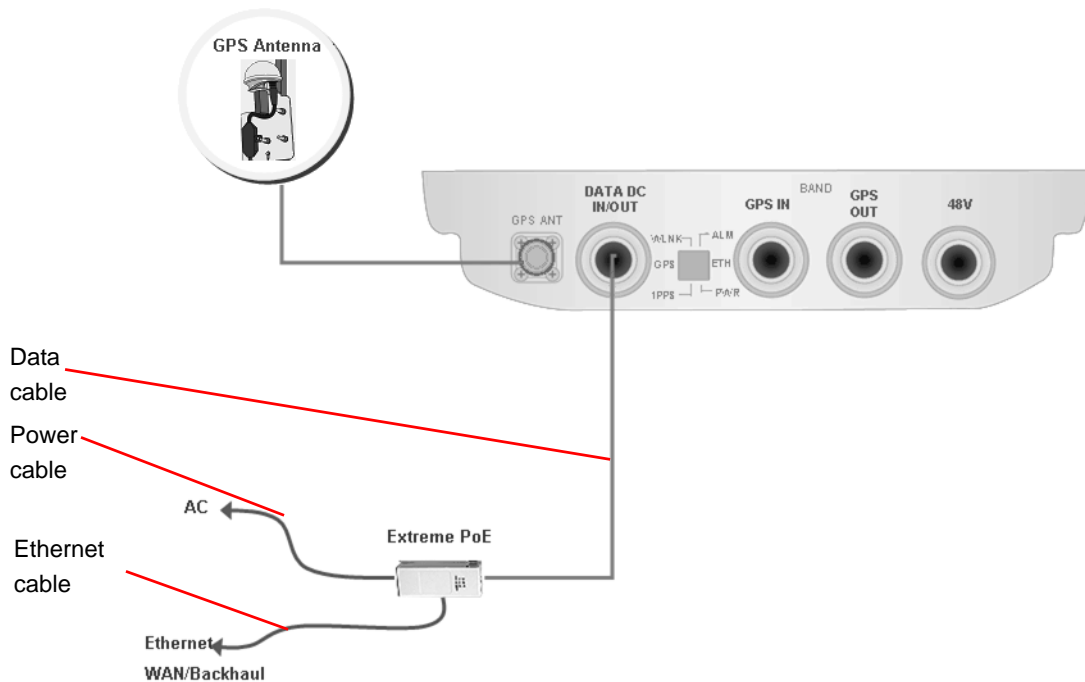

Figure 2-22: Connecting Data Cable When Using PoE (for 5 GHz Units Only)
- » If you are using PoE (for 5 GHz units only) - to the PoE AC/DC power supply RJ-45 connector (labeled as Radio). Connect the Ethernet port of the PoE PS to the backhauling equipment using a standard Ethernet cable. Connect the PoE PS to the 110/220 VAC mains. See Figure 2-22.